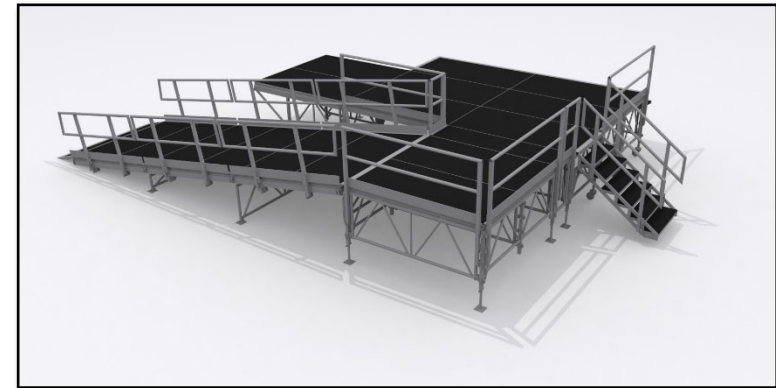
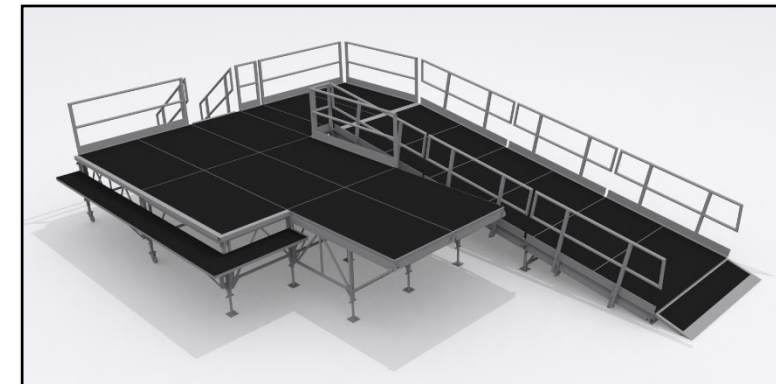

Fig. 1 - Complete System Front
Fig. 2 - Complete System Rear
- 1.1 Operating & Maintenance Manual for Arena Deck Rolling Stage designed and manufactured by Total Solutions Group. *Fig. 1 - Complete System Front & Fig. 2 - Complete System Rear*